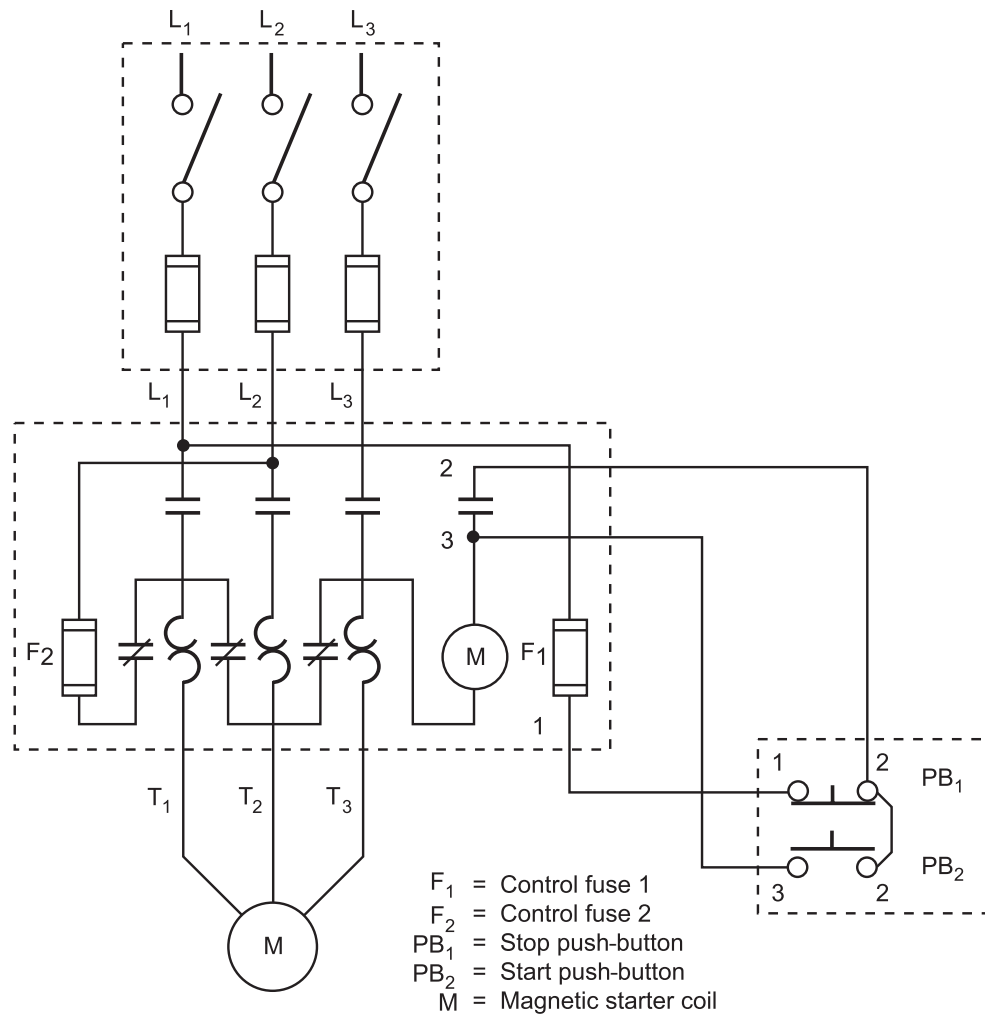

Figure 5—Completed wiring diagram from the schematic in Figure 3
- This completes the wiring diagram, so that it looks like Figure 5.